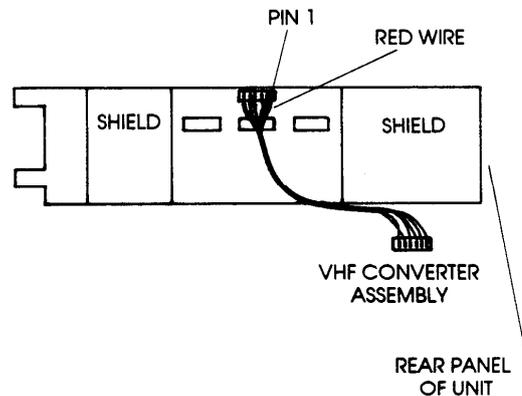

FIGURE 3
5) Identify the (6) conductor cable (17' length) and plug it onto the VHF converter assembly (Figure 3) being careful to align the connector with the RED conductor on Pin 1 of the VHF converter assembly.